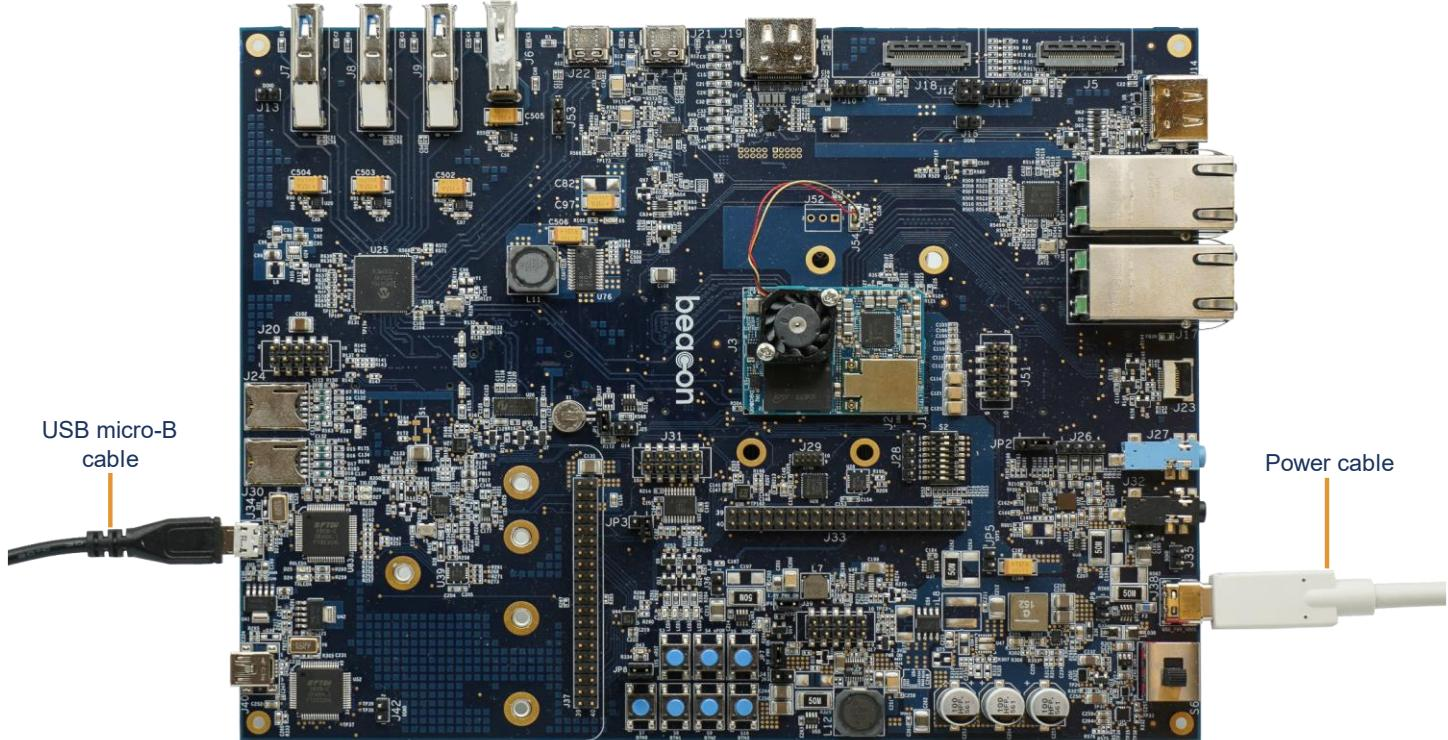

Figure 3: Baseboard (Front Side) w/ Cables
| Figure 3: Baseboard (Front Side) w/ Cables | 3 |
1. Connect the USB micro-B cable to the debug UART USB port (J34) on the baseboard and to an empty USB port on your host PC. See Figure 3.
2. Plug the power adapter into an electrical outlet and the USB-C cable from the output connector into the power-in connector on the baseboard. See Figure 3.